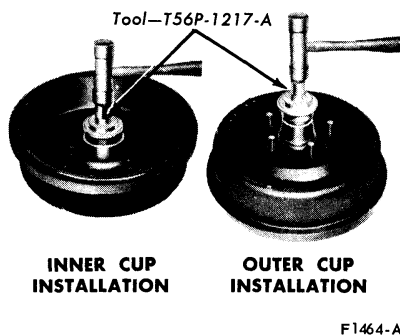
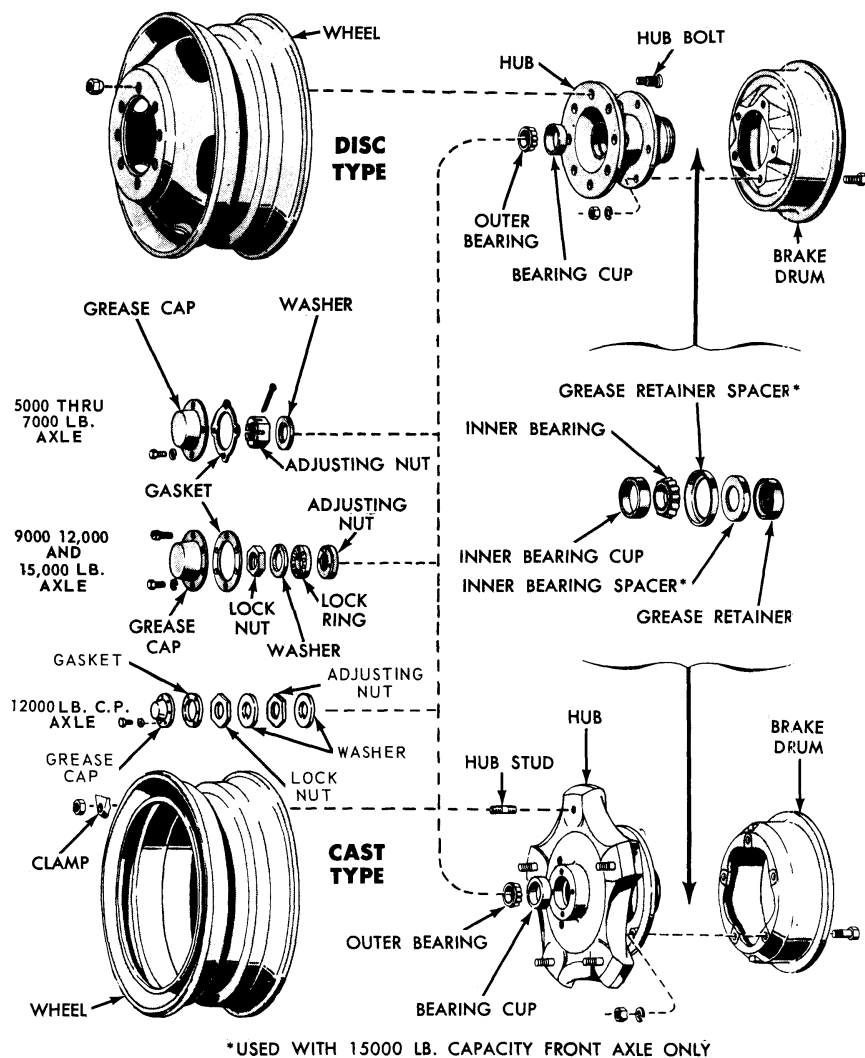

FIG. 1 Installing Bearing Cups
FIG. 3 Typical Front Hubs and Bearings
Each front wheel and tire assembly is bolted to its respective front hub and brake drum or rotor assembly. Two opposed tapered roller bearings are installed in each hub (Fig. 1 and 2, Part 11-02, and Fig. 3 and 4 of this Part). A grease retainer is installed at the inner end of the hub to prevent lubricant from leaking into the drum or onto the rotor. The entire assembly is retained to its spindle by the locknut and/or adjusting nut and cotter pin, or an adjusting nut and lock nut combination (Figs. 3 and 4).
3. While rotating the wheel, torque the adjusting nut (Fig. 1, Part 11-02) to 17-25 ft-lb to seat the bearings.